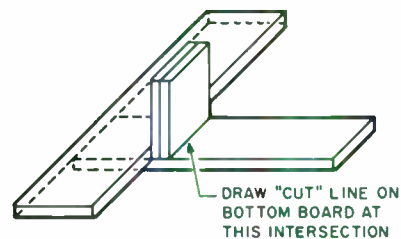

FIGURE 3: Method for determining the length of front/back pieces.
3. Now, cut your front and back pieces, which should be as long as a side plus the thicknesses of the top and bottom pieces. Lay another 4' long piece in front of you (the long side closest to you) and place a side piece directly on top of the future front/back. Place two top/bottom pieces on top of each other and butt the top of this stack against the end of the side piece on top of the front piece. Line up the end of the front piece with the end of the side piece and draw a line after the second top/bottom piece. See Fig. 3. Cut on the appropriate side of the line,